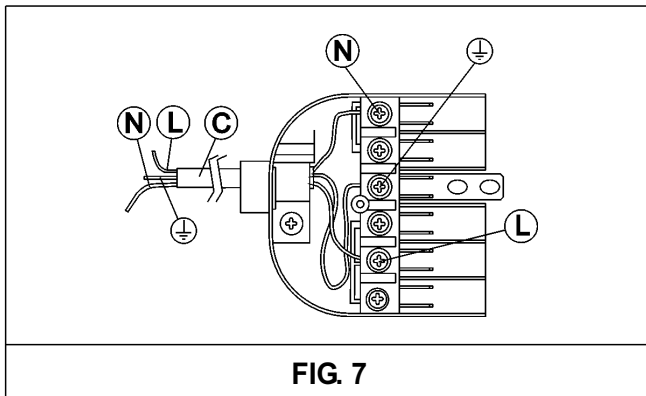

FIG. 7
- fit a standard plug to power cable (if supplied). This plug should be able to bear the load indicated on the data label. Connect the wires according to the diagram in fig. 7, remembering to comply with the following instructions: